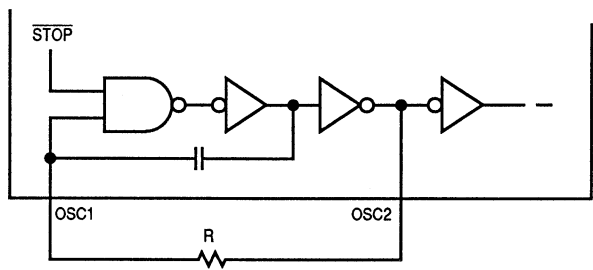
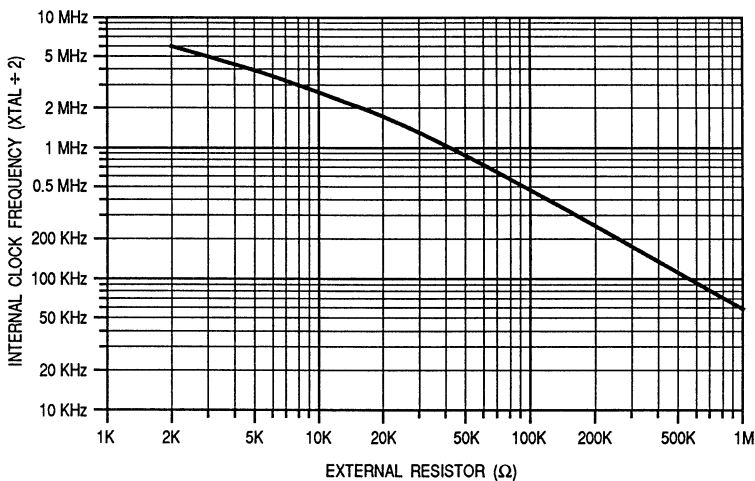

Figure 2-4. RC Oscillator Connections
Figure 2-5. RC Oscillator Frequency vs Resistance
- A resistor between OSC1 and OSC2 to form an RC circuit with an internal capacitor (Refer to Figure 2-4 for connections and Figure 2-5 for resistance-frequency relationship.)
With this option, a resistor is connected to the oscillator pins as shown in Figure 2-4. The relationship between R and f_{op} is shown in Figure 2-5. Because the accuracy of the RC oscillator is $\pm 50\%$, the nominal design frequency must be limited to 66% of the maximum frequency. This ensures that the operating frequency remains below the upper limit. This 50% tolerance only allows for the MCU variation. Make additional allowance for the tolerances of any external components. Operation with a crystal (or ceramic resonator) is preferred.